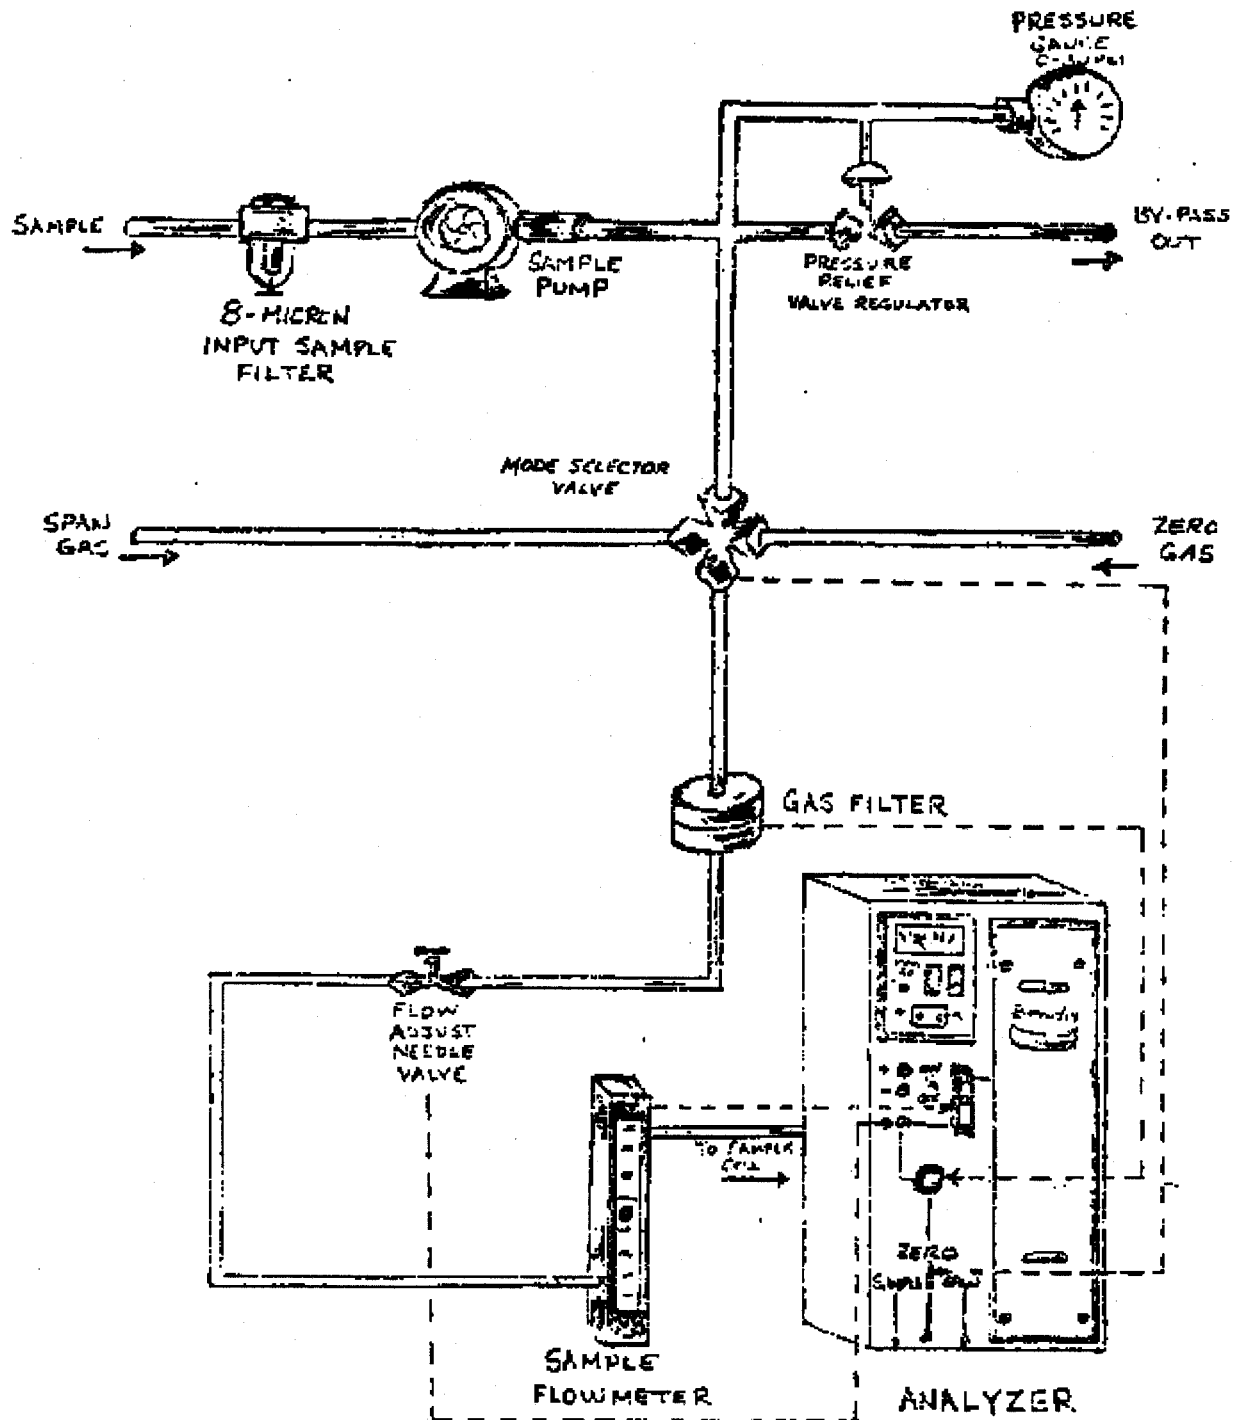

Figure B.1.0.1
The analyzer monitors concentrations of CO present in an air sample by passing alternating nondispersive single beam infrared (IR) radiation through a sample and a reference cell to a detection chamber (detector). The sample cell is open to ambient air or calibration gas while the reference cell is sealed and filled with a gas such as nitrogen which will not absorb IR radiation. Without CO present in an air sample, the IR radiation intensity sensed by the detector is essentially equal between the two cells, resulting in no capacitance change and a zero electrical output. When CO is present, IR radiation is absorbed in the sample cell proportional to the concentration of CO, in PPM. The unequal intensity now sensed by the detector produces an output in the form of a capacitance change. This capacitance change is coupled to a capacitance to voltage converter producing an electrical signal suitable for a recording device. Figure B.1.0.1 illustrates the Bendix flow. For further details, refer to the Manufacturer's Instruction Manual.